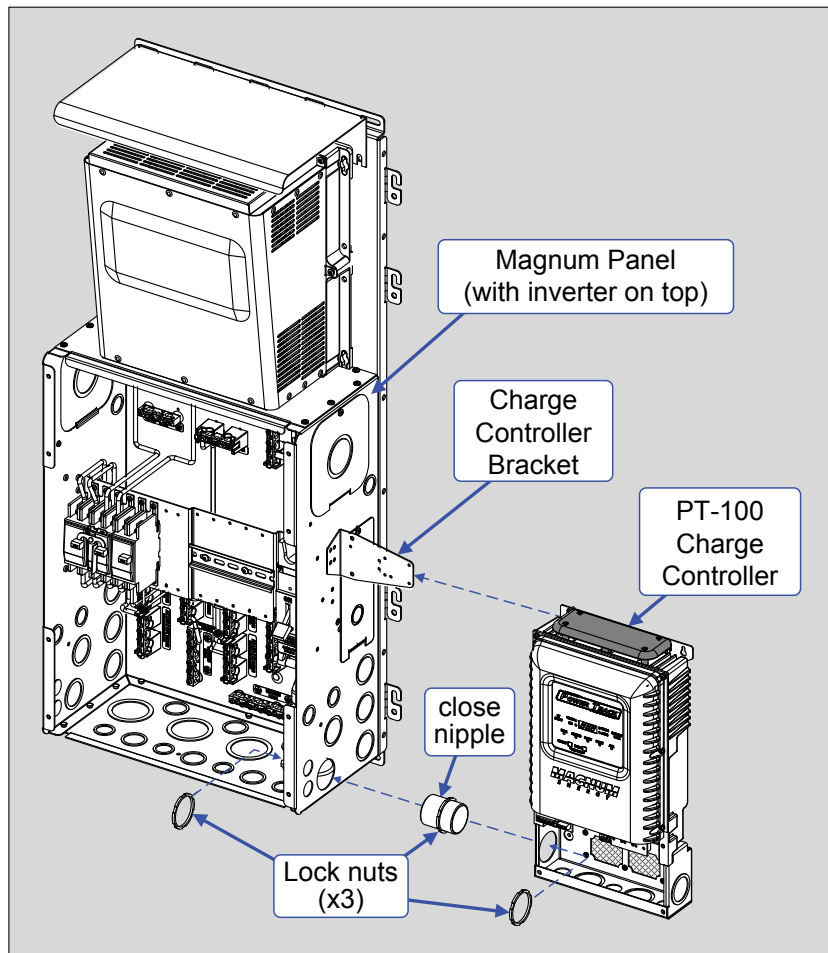
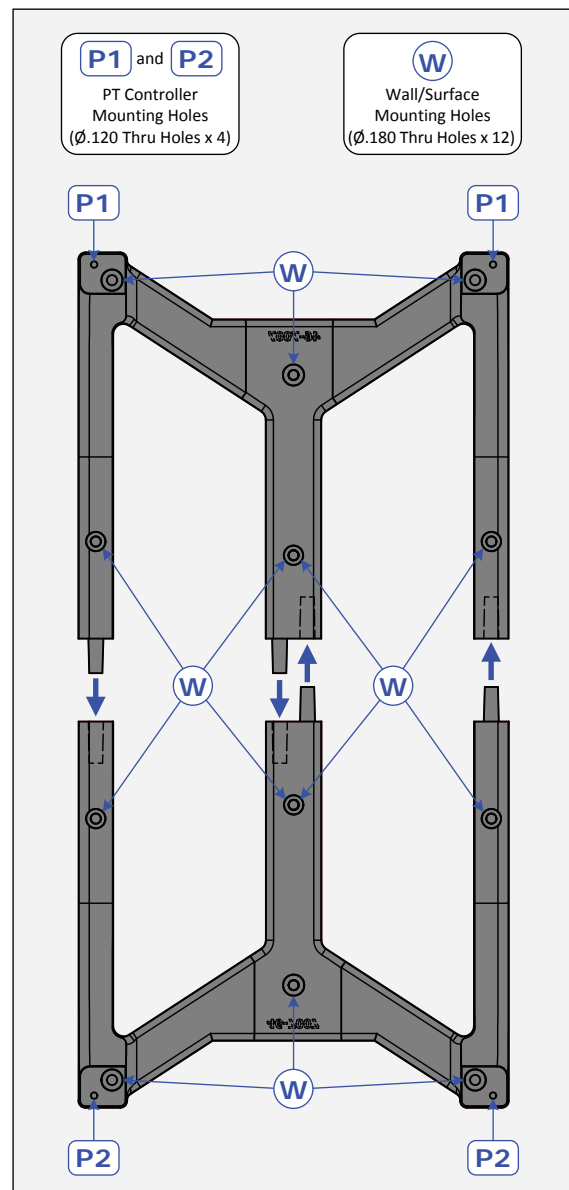
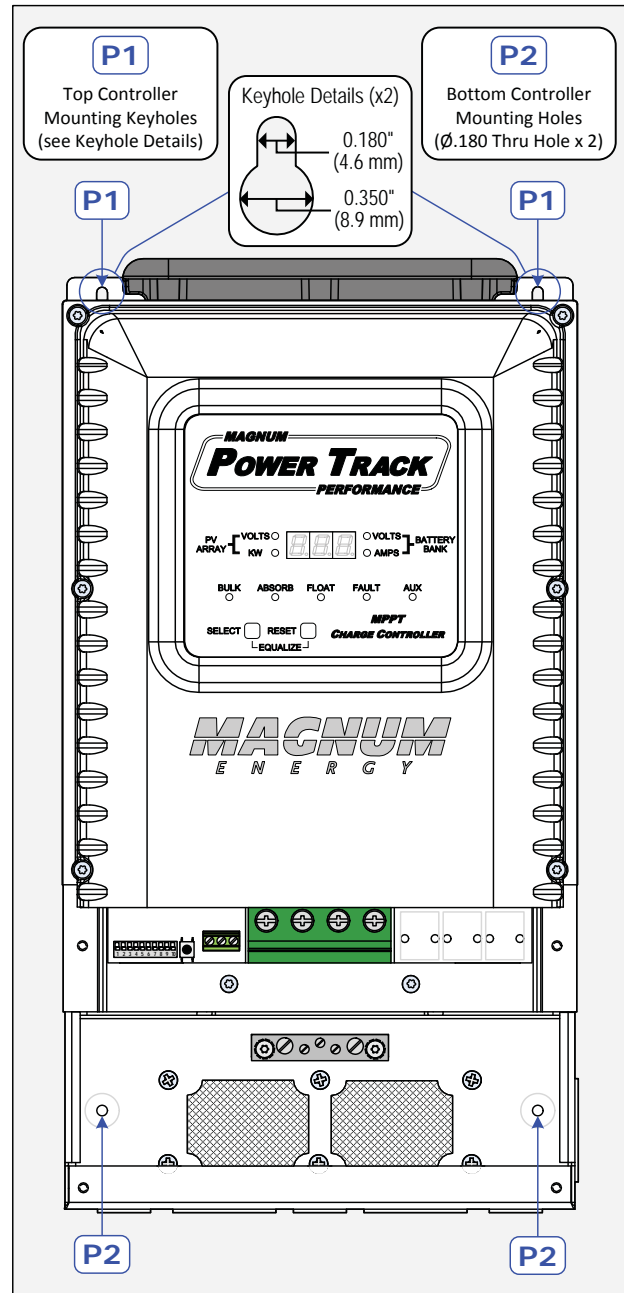

Figure 2-8, Mounting the PT-100 Controller on a Magnum Panel
Figure 2-10, Mounting Bracket Thru-hole Callouts
Figure 2-11, PT Controller Mounting Holes
The charge controller should not be installed in an area that allows dust, debris, insects or rodents to enter or block the controller's ventilation openings, or in an area without sufficient air flow around the PT's enclosure. There must be free air movement through the controller and over the controller's rear heatsink fins. This is done by mounting on the side of a Magnum Panel (see Figure 2-8) or by using the supplied wall-mounting bracket to mount against a wall (see Figure 2-10).
Two mounting methods are available for the PT-100. The first method allows the controller to be mounted next to a Magnum Panel (i.e., MP or MMP), aligning the conduit openings (see Figure 2-8). The second mounting method uses two brackets on the top and bottom of the controller for mounting directly on a wall and is normally used in a standalone installation (see Figure 2-10).
1. Use one of the bracket pieces for the bottom half of the bracket and hold it on the mounting surface at the desired height. While using a level to ensure it is horizontally and vertically straight (and the openings in the bracket are faced toward the top), insert two #8 sized screws into any of the wall mounting holes (designated as "W" in Figure 2-10).
2. Now that the bottom bracket is mounted, use the other bracket piece as the top half and insert it into the openings of the bottom bracket. While holding the top bracket in place, insert two #8 sized screws into any of the designated "W" wall mounting holes (see Figure 2-10).
Once the wall-mounting bracket is securely fastened to the vertical surface, you can now attach the PT charge controller. Refer to Figures 2-11 and 2-12.
1. Using two of the #8 Phillips head screws provided, insert the screws into the top two mounting holes of the wall-mounting bracket (designated as "P1" in Figure 2-10). Tighten these screws until there is a ¼" (6.4 mm) gap between the bracket's mounting hole surface and the screw head.
2. Hang the PT controller onto the wall-mounting bracket by placing the two keyhole openings of the PT controller (designated as "P1" in Figure 2-11) onto the two #8 screws—ensuring the controller is securely held in place before releasing.
3. Align the two mounting holes in the bottom of the PT controller (designated as "P2" in Figure 2-11) over the two bottom mounting holes on the bracket (designated as "P2" in Figure 2-10).